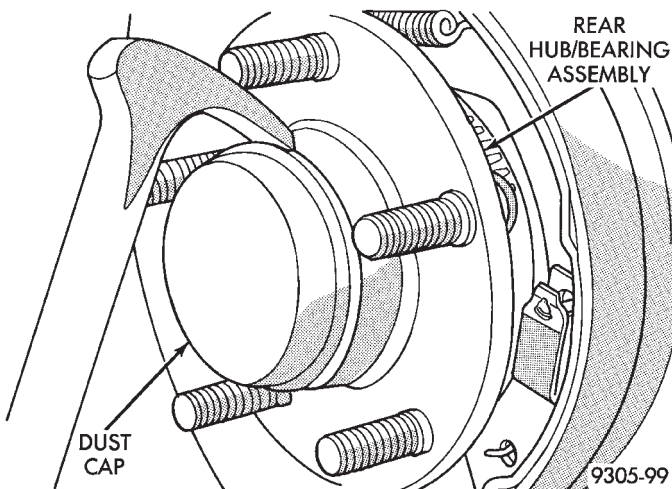

Fig. 118 Hub/Bearing Dust Cap
(1) Remove the rear wheel and tire assembly from the side of the vehicle requiring service to the park brake cable.
(2) Remove the rear brake drum from the rear hub/bearing assembly.
(3) Remove dust cap from rear hub/bearing assembly (Fig. 118).